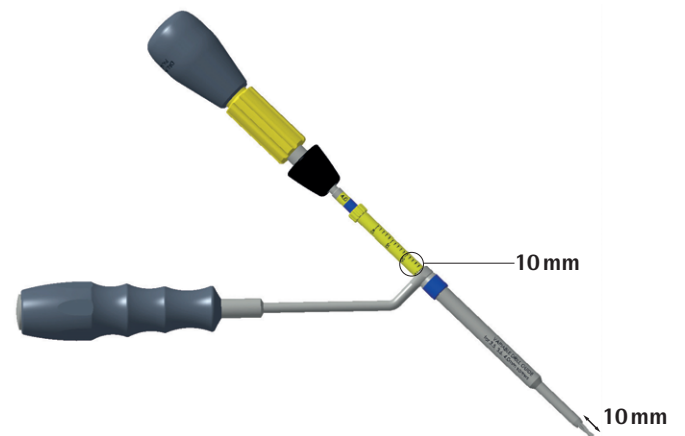

Fig. 4
- ▶ Check the depth: Insert the required drill into the guide up to the positive stop and verify the exposed length of the drill with a caliper (e.g. AA845R), see Fig. 4.